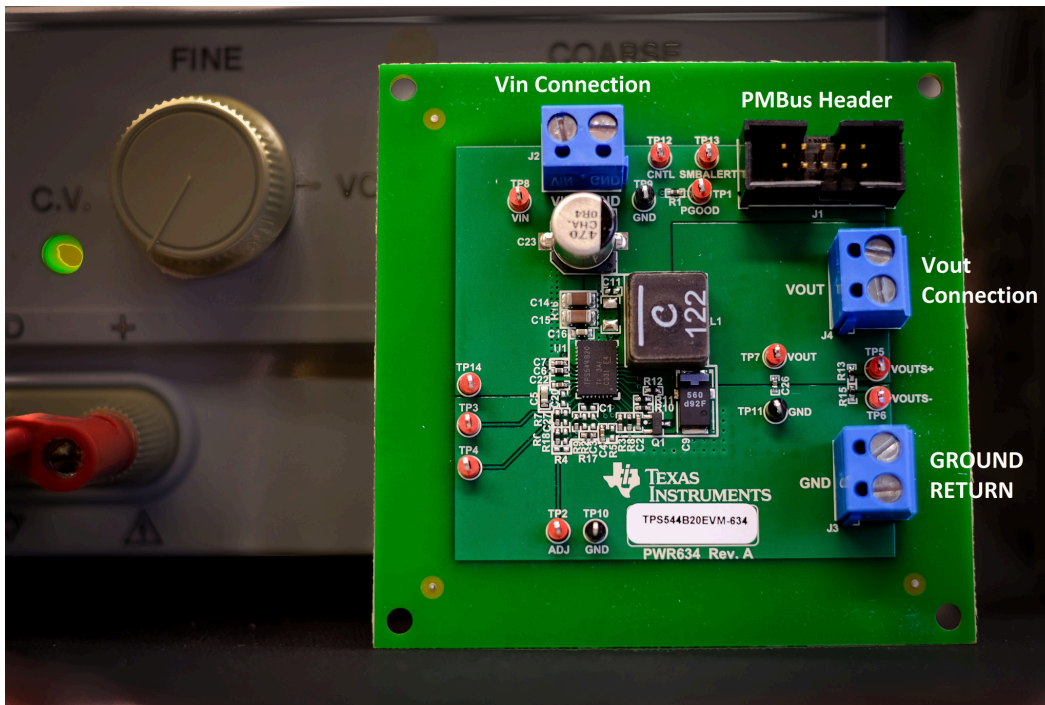

Figure 4-1. PWR-634EVM Overview
Voltage Source: The input voltage source VIN must be a 0-V to 14-V variable dc source capable of supplying at least 5 Adc. Connect VIN to J2 Figure 4-1.
Multimeters: It is recommended to use two separate multimeters Figure 4-1. One meter is used to measure Vin and one to measure Vout.
Output Load: A variable electronic load is recommended for testing Figure 4-1. It must be capable of 30 A at voltages as low as 0.9 V.
2. Apply the input voltage to the EVM. See Figure 4-1 and Figure 4-2 for connections and test setup.
1. Set up the EVM as described in Section 4.3 and Figure 4-1.